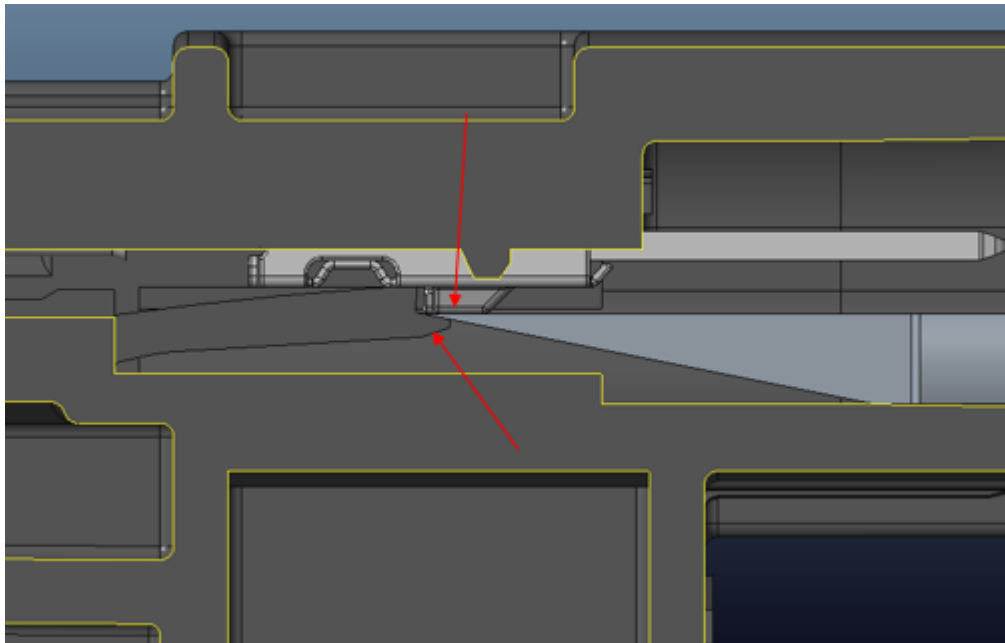

Figure 12
*At this point the tip of the tool will be in-between the contacts and the retaining latch (reference Figure 12).*